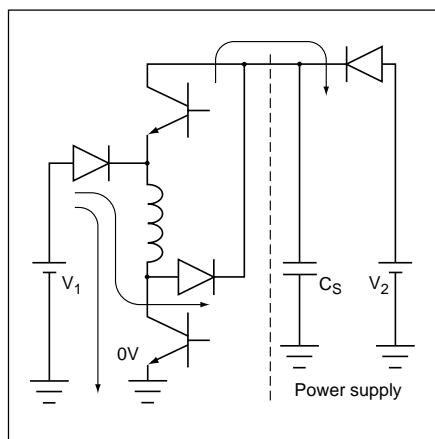

Figure 16. Power return turn-off circuit for bi-level
**Power return to T O C for bi-level drive (figure 16)**